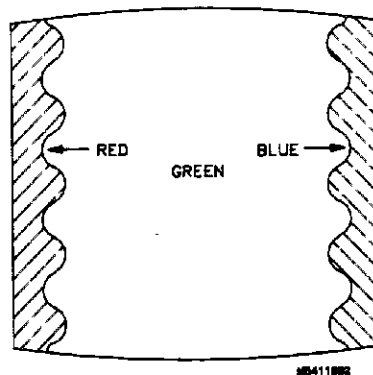

Figure 4-16. Purity Magnet Adjustment Raster.
6. Move deflection yoke rearward until left edge of raster turns red and right side of raster turns blue. See figure 4-16.
7. Adjust purity magnets until green is in center of raster with red and blue bands evenly distributed on sides. See figure 4-16.